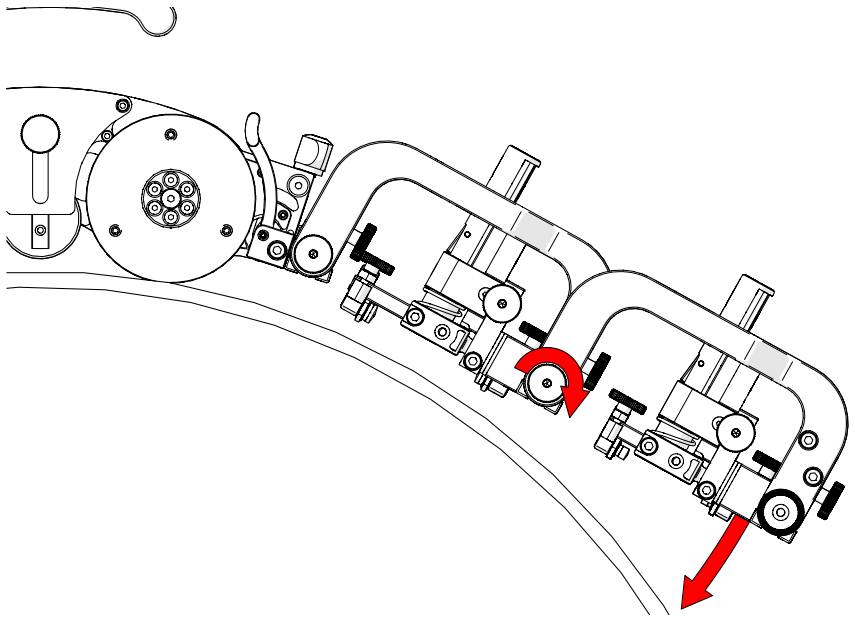
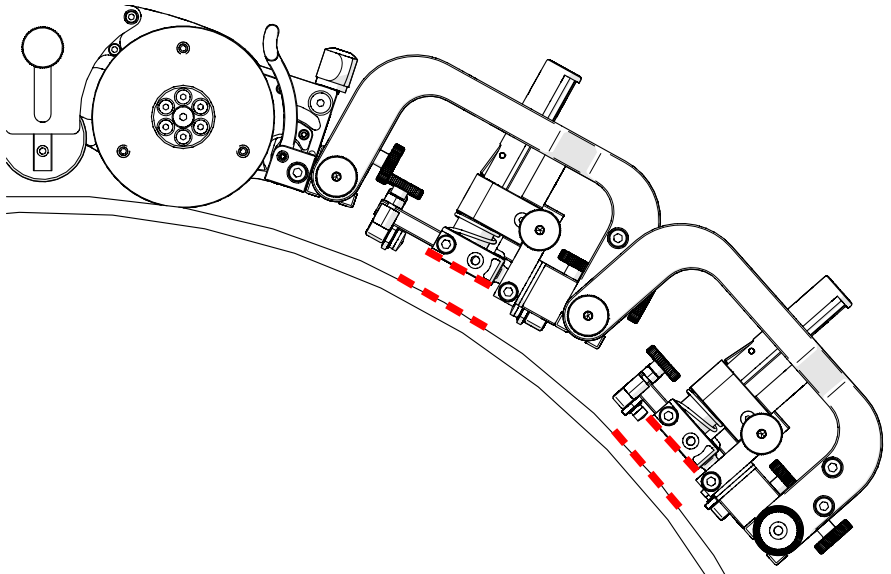

Fig. 229 - Set front rotational adjustment knob
Fig. 230 - Align probes with the scan surface tangent
- 6.** Loosen the front rotational adjustment knob (Fig. 229) to align the TOFD probe holders parallel with the scan surface (Fig. 230).